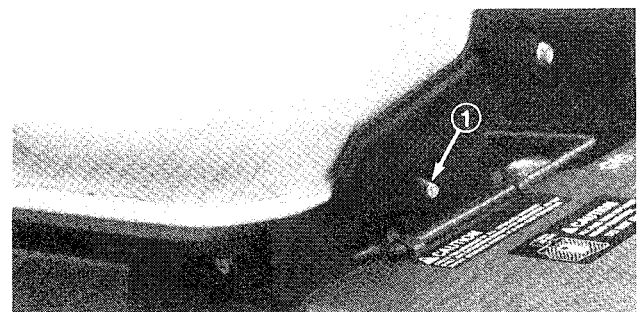

Figure 22
**Seat Adjusting Levers (Fig. 22)** — To adjust standard seat, push lever backward and slide seat to the desired position. Release lever to lock seat in place.